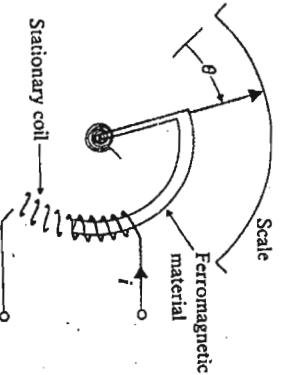

Fig. 3.69 Diagram for Problem 3.13.
Q.2. Figure 3.69 illustrates the movement of a moving iron ammeter in which a curved ferromagnetic rod is drawn into a curved solenoid against the torque of a restraining spring. The inductance of the coil is $L = 5 + 200 \mu\text{H}$, where θ is the deflection angle in radians. Its resistance is 0.01Ω . The spring constant is $7 \times 10^{-4} \text{ N}\cdot\text{m/rad}$.